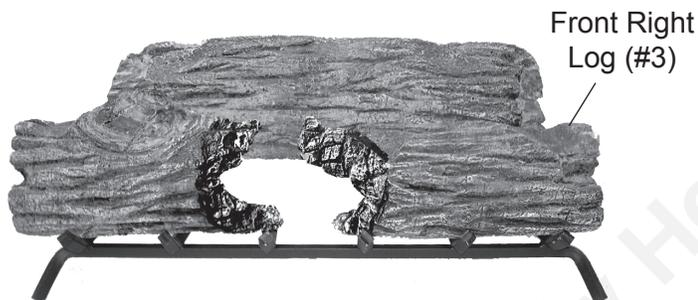

Figure 34 - Placing Front Right Log (#3)
- Place front right log #3 on the front of the grate and to the right. See Figure 34.